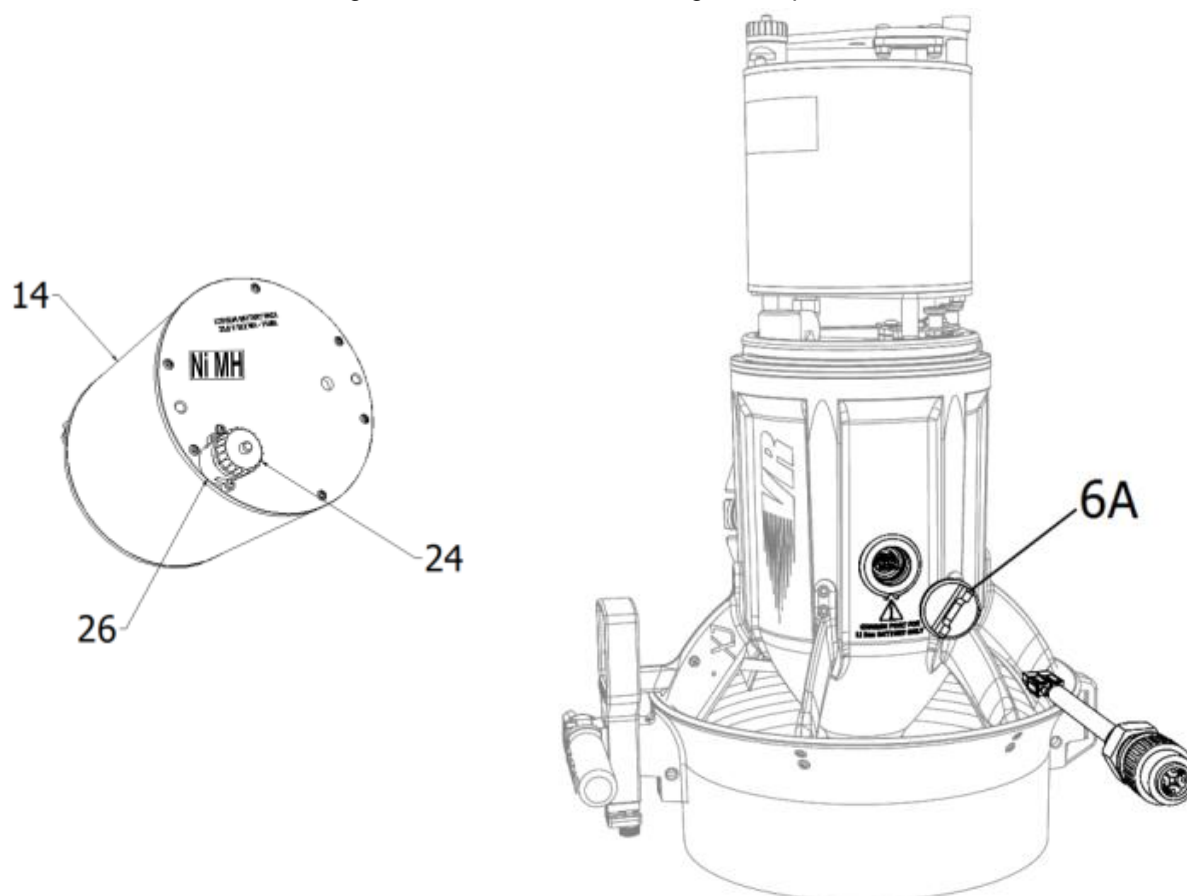

Fig.1
Main battery components (Fig.1) are:
2. The battery must be connected to the charger by means of the appropriate connector (26).
**THE BATTERY SHOULD BE CHARGED ONLY THROUGH THE CONNECTOR (26), IT IS FORBIDDEN TO USE THE CONNECTION (RED) CONNECTOR TO THE MOTOR: DANGER OF FIRE, EXPLOSION, SERIOUS DAMAGE OR DEATH.**
Unscrew the plug of the charging connector (24) (fig.1);